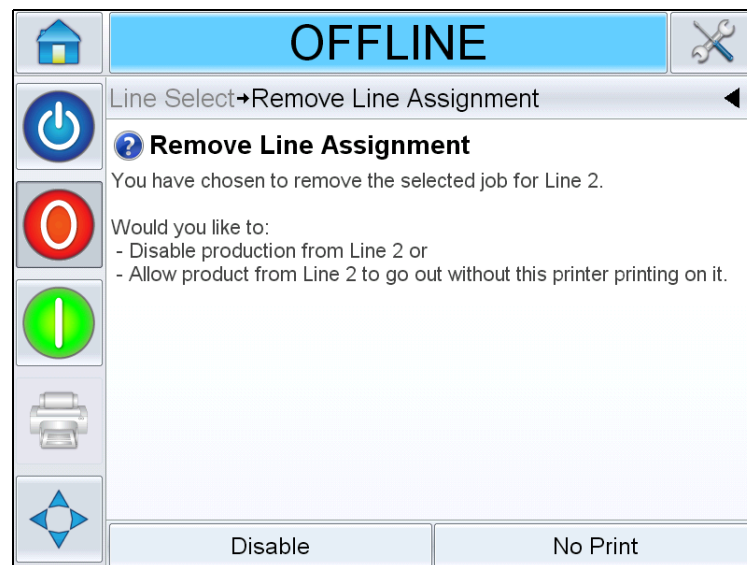

Figure 6-32: Remove Line Assignment
- b. *Remove Line Assignment* page appears with the following choices (Figure 6-32):